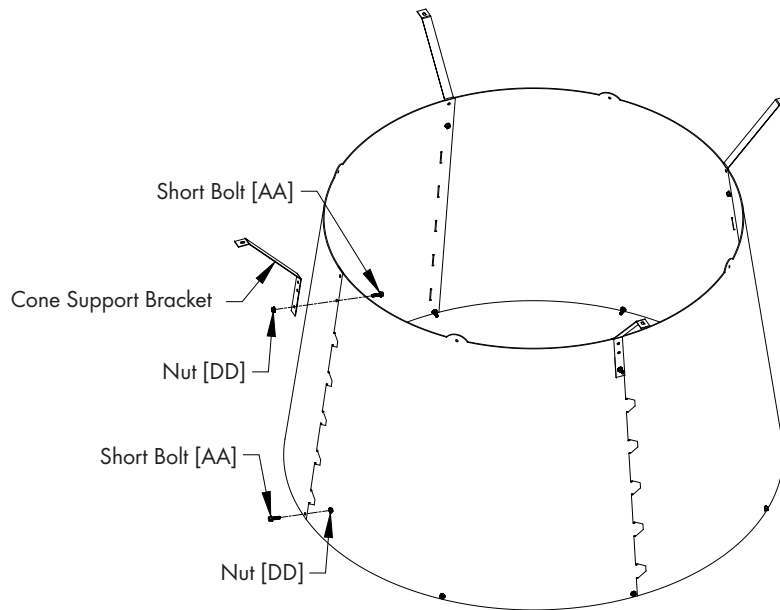

Figure 19B
Stand cone sections on end and curl ends around to form cone with Cone Support Bracket on outside and tabs on inside. Insert remaining tabs into slots so tabs are inside cone and fasten final joint using (1) Short Bolt [AA] and Nut [DD], with nut on inside of cone. At the inner pair of holes attach (1) Cone Support Bracket to the inner hole using (1) Short Bolt [AA] and Nut [DD] with bolt head on inside of cone. See Figure 19B.